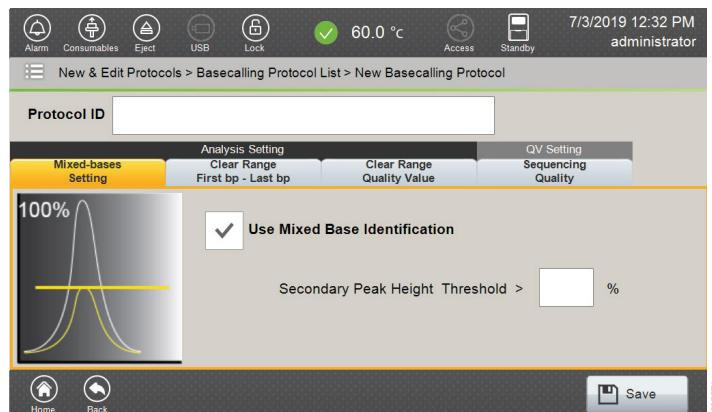

Figure 121. 'New Basecalling Protocol' screen.
2. Select **Create** in the footer to open the 'New Basecalling Protocol' screen (Figure 121). There are four tabs on the 'New Basecalling Protocol' screen.
Mixed Bases Setting	<p>Checking the "Use Mixed Base Identification" box enables this function (Figure 121). If there are two peaks at the same position and the smaller intensity peak is greater than the Secondary Peak Height Threshold (height as a percentage of the major peak at the same position) set in the basecalling protocol, then the software will identify this peak as a mixed base.</p> <p>Minimum and maximum values allowed for the Secondary Peak Height Threshold are 1% and 99%, respectively.</p>
3. Enter a Protocol ID, and then check the "Use Mixed Base Identification" box on the 'Mixed-Bases Setting' tab, if desired, followed by the Secondary Peak Height Threshold value (Figure 121).